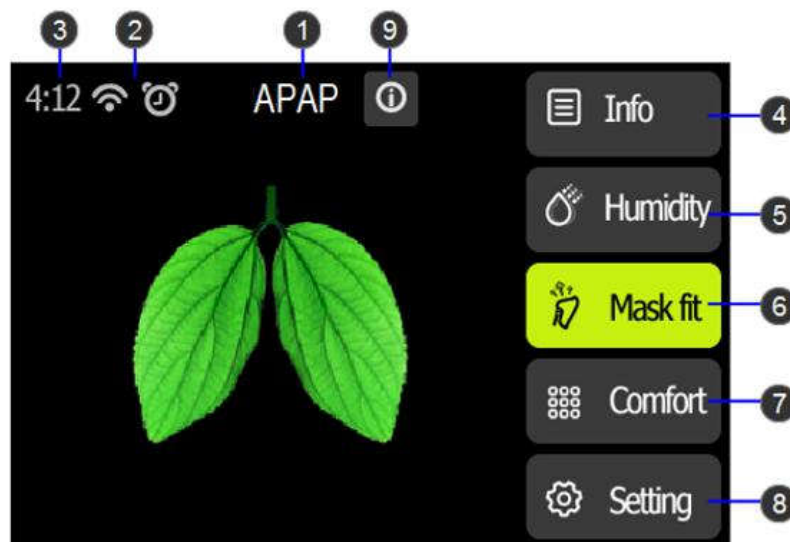

Figure1 Patient Standby Interface
1. Ensure power is supplied to the device. The first screen to display will be the Resvent logo, within 5 second followed by the patient standby screen (See Figure 1).